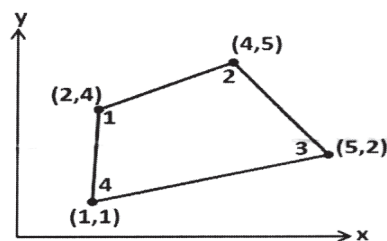

Fig. 1
b) Obtain strain displacement matrix for the quadrilateral element as shown in figure 1 using isoparametric formulation. [9]